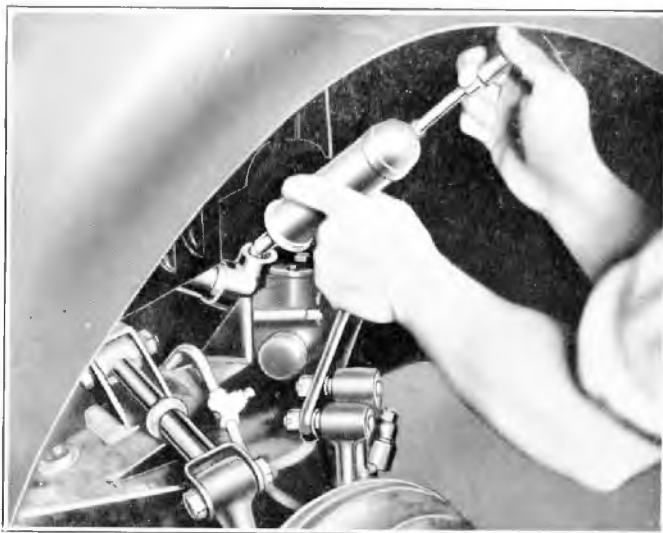

Fig. 37
1. **Every 3,000 miles** check the level of the oil in the steering box. See Fig. 37 for method of access to the filler plug. Remove the plug and top up with oil to the level of the hole, and replace the plug. Use Shell E.P. Spirax Heavy Gear Oil.